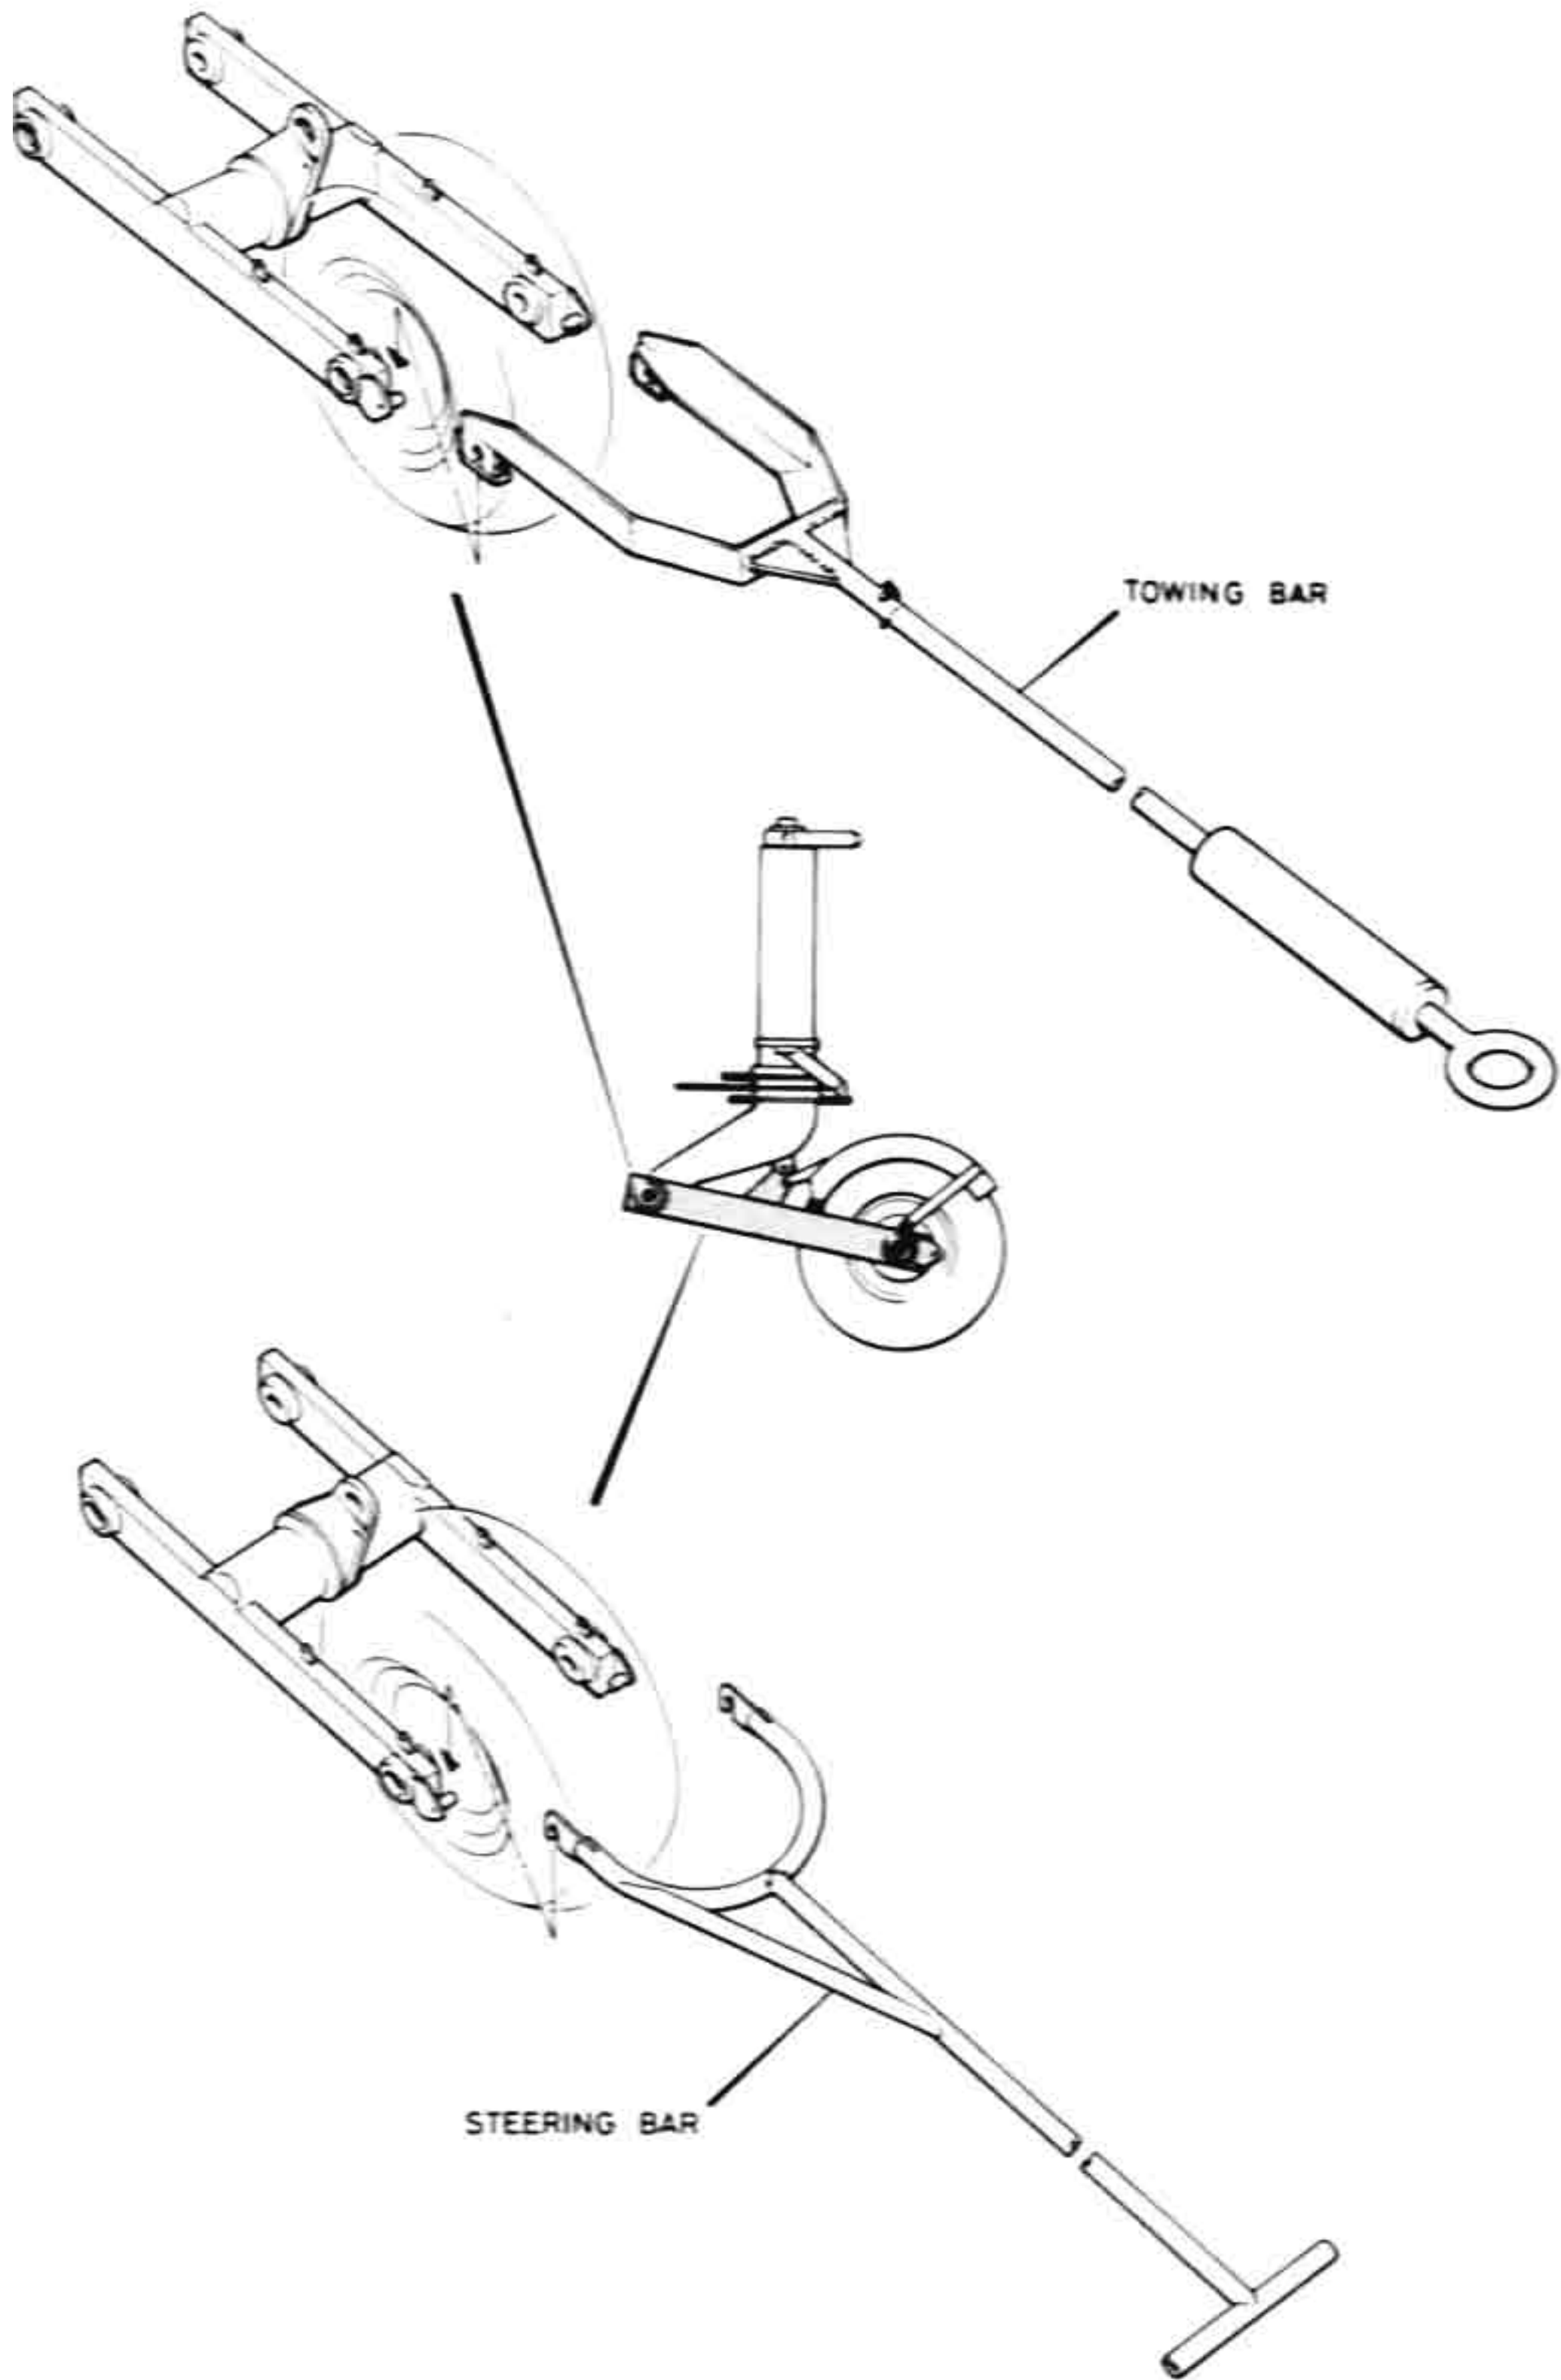

FIG.1-52 TOWING AND STEERING ATTACHMENTS
1246. Towing. (Ref. Fig. 1-52).
- a. by cables attached to the towing fixtures on the main strut; in this case the aircraft is guided by the steering bar which is installed on the tail wheel as shown in Fig. 1-52 or,
- b. by the tail wheel, using the special towing bar shown in Fig. 1-52.
1248. Installation of Towing Bar or Steering Bar. The towing bar or steering bar is attached to the tail wheel by fitting the slots in the U of the bar over the lugs on the inside of the tail wheel fork. (Ref. Fig. 1-52).